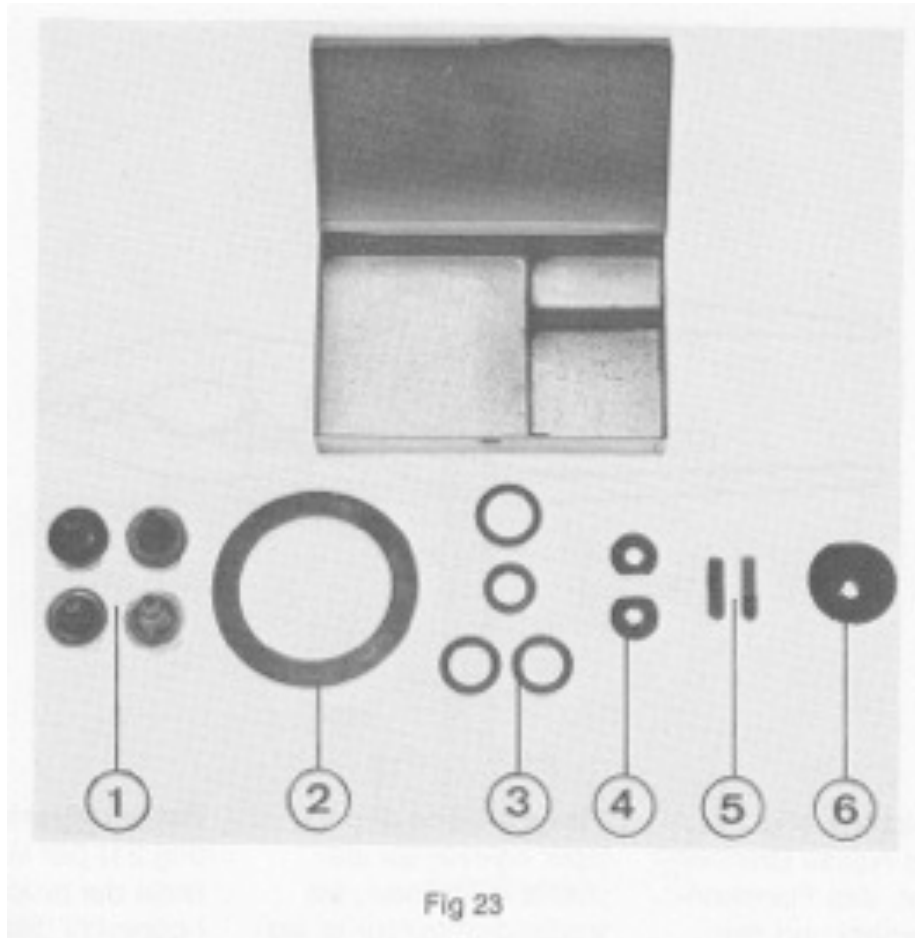

Fig 23
**36. Box with spare parts (Fig 23) containing:**
- ① 4 jets with filter, complete NSA 291-7173, with seal for each  $\varnothing$  2.8 mm x 10/18 NSA 204/9760